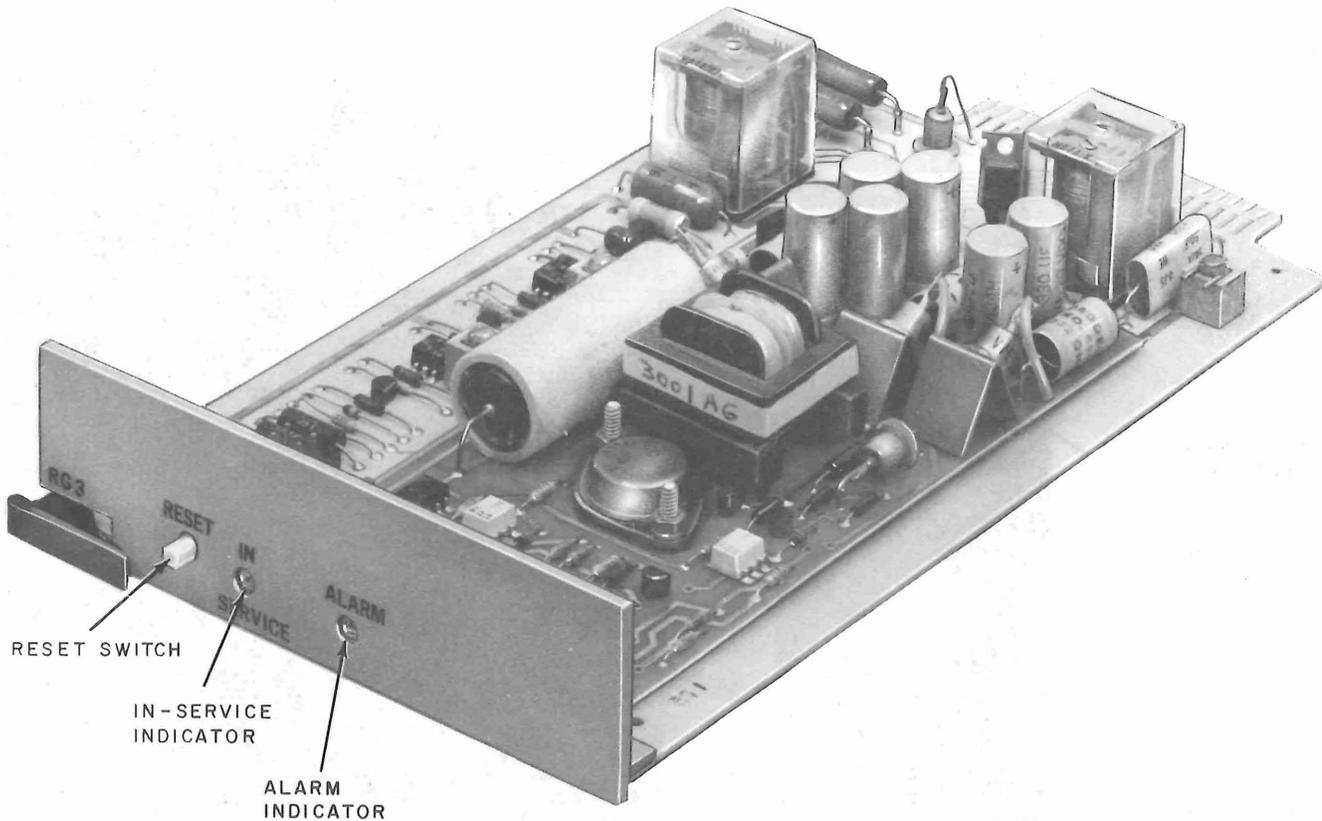

Fig. 10—RG3 CP—Power Supply
2.09 RG3 CP (Fig. 10): Two indicators (IN SERVICE, ALARM) and a pushbutton switch (RESET) are mounted on the faceplate. The RG3 CP weighs 1-1/8 pounds and measures 1-1/2 inches high, 5-1/2 inches wide, and 10 inches deep.